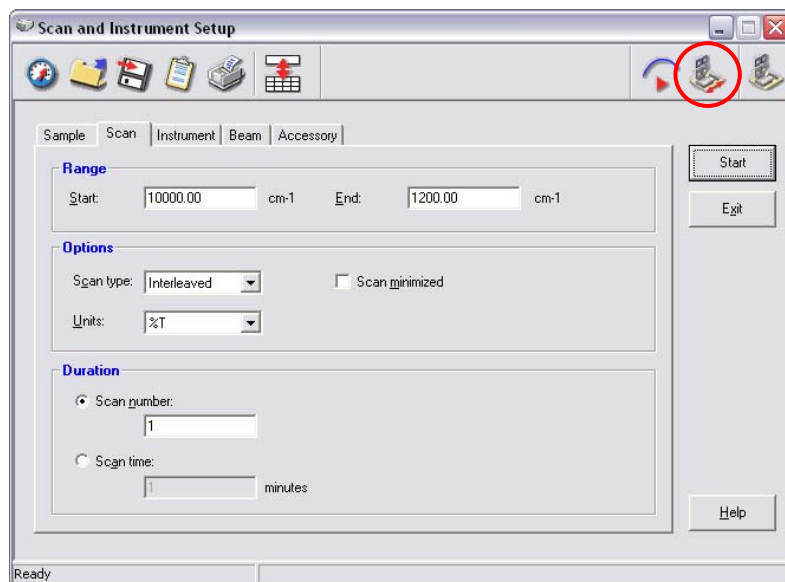

Figure 5 The Shuttle tool for manually changing position
- Click on the shuttle tool  to move the shuttle from its current position to the other position (Figure 5).